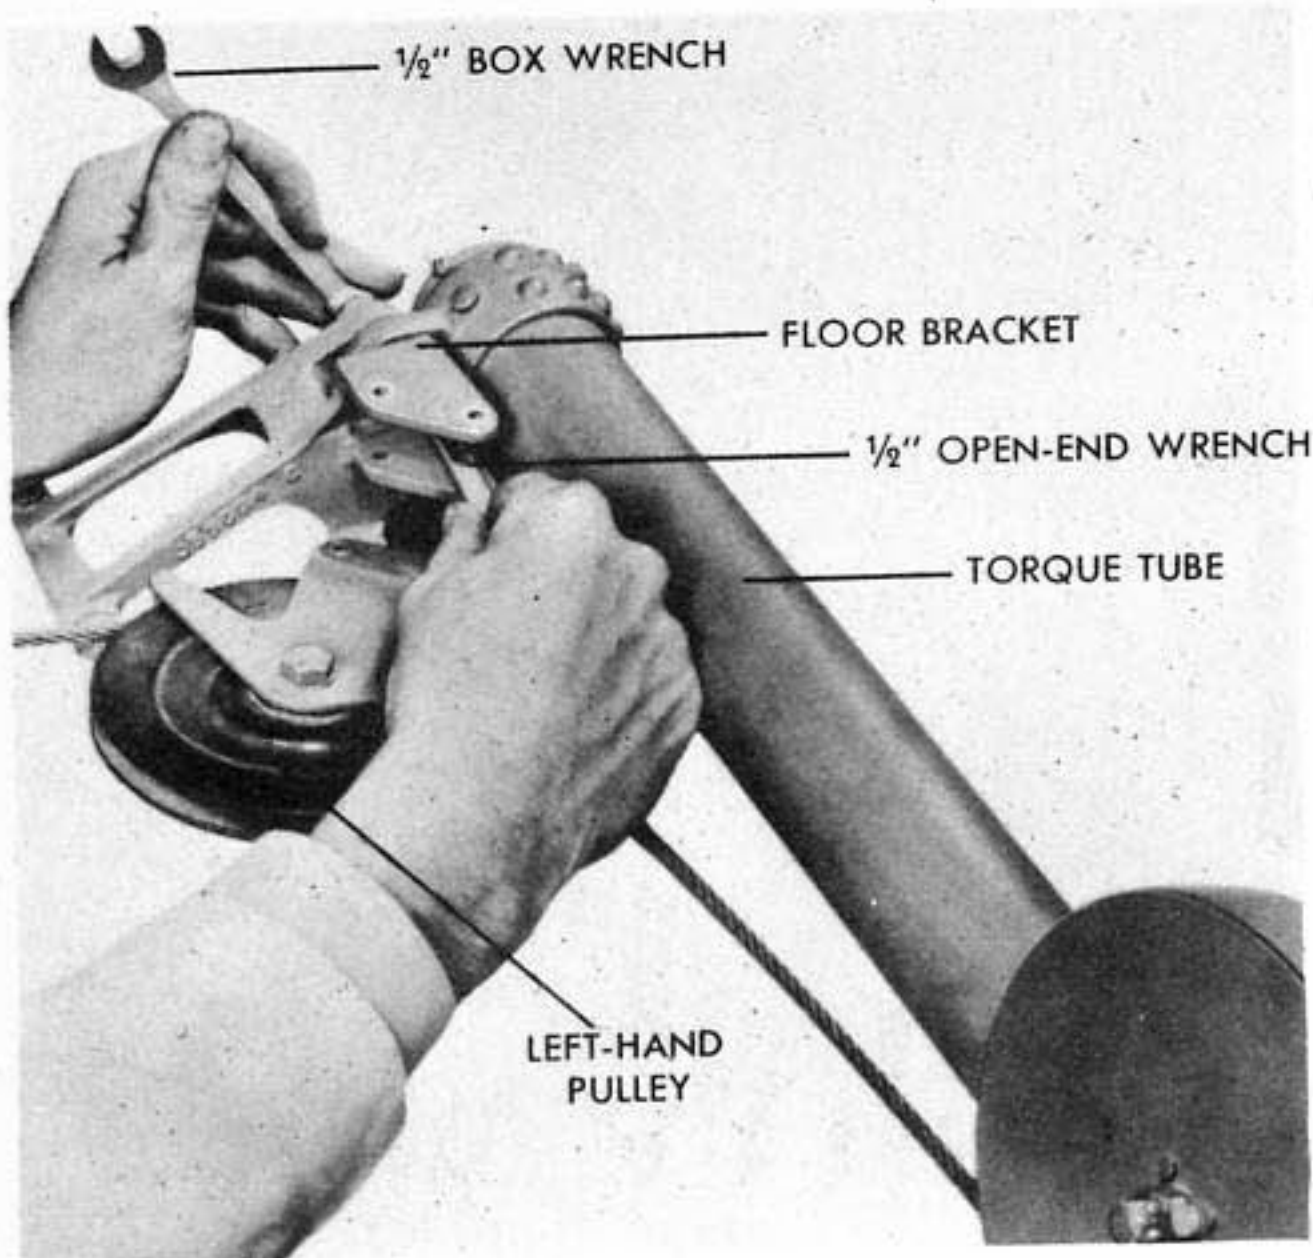

Figure 172 - REMOVING CONTROL COLUMN
(1) REMOVAL OF CONTROL COLUMN. (See figure 172.)